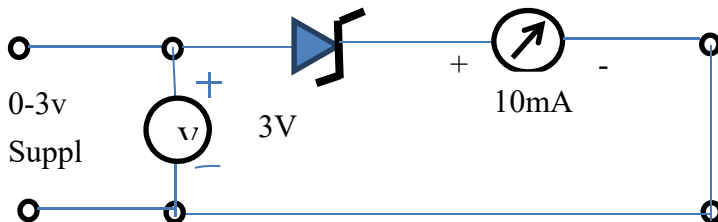

Fig .5(a)
- v. Plot a graph between voltage and current as shown in fig 5(c).